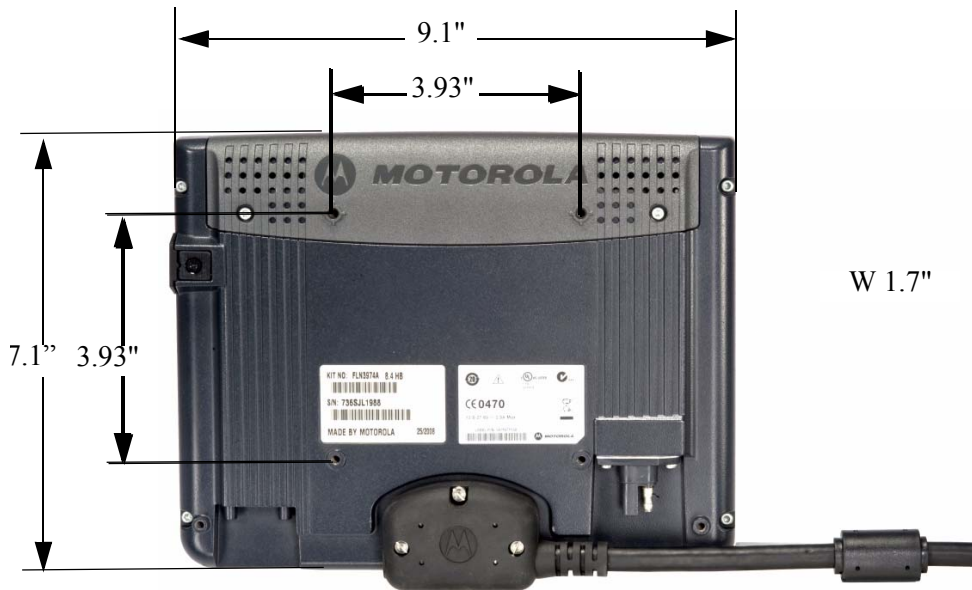

Figure 11
- 1) Right side driving countries (driver's seat on left-hand side). Seen from the front, cable exits to the right away from the driver (see Figure 11).